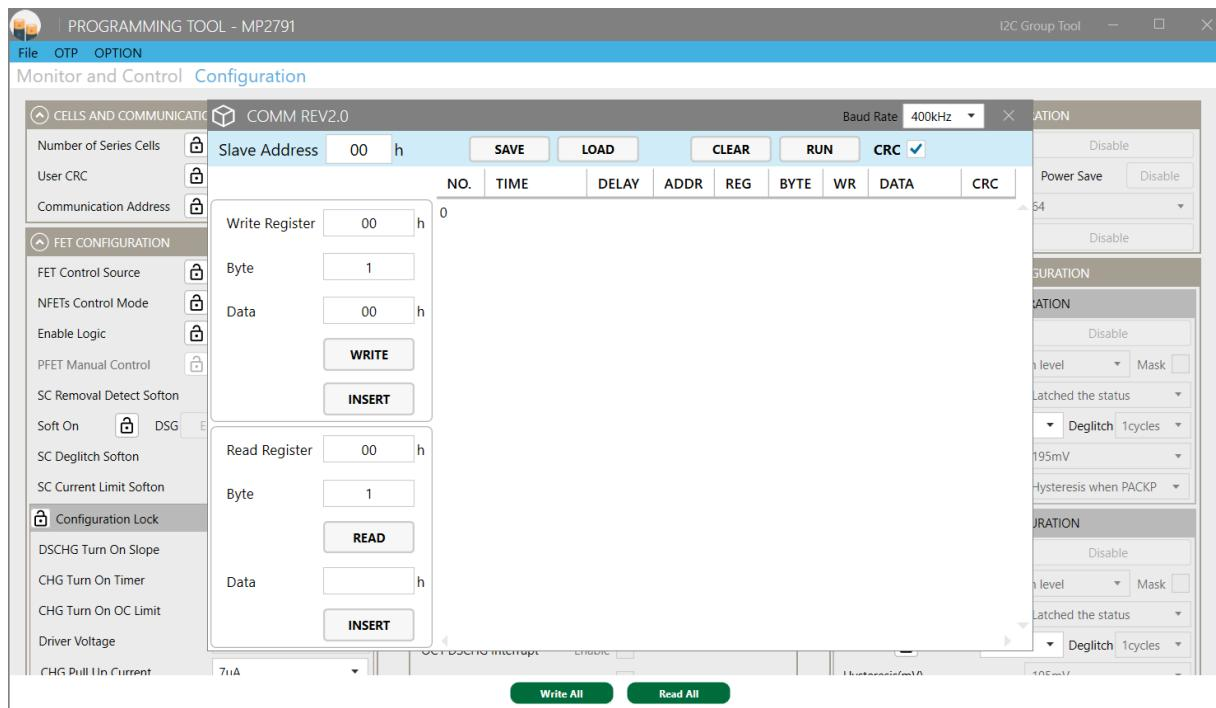

Figure 13: Group Tool to Configure a Single Register
5. Click “I2C Group Tool” at the top right of the GUI window to configure a single register in the “COMM REV2.0” window that pops up (see Figure 13 on page 13).